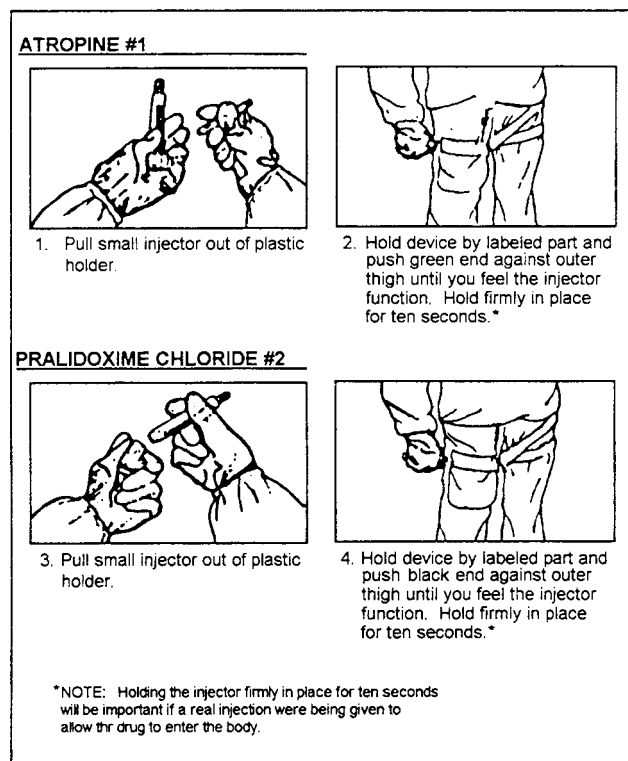

Figure 9-4.—Instructions for use of NAAK, Mark I.
3. Inject the thigh with the first injector from the kit (atropine, small autoinjector). (See fig. 9-4.) Hold the injector against the thigh for at least 10 seconds. Remove the injector.